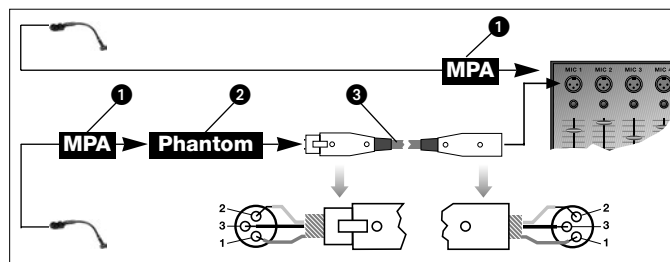

Fig. 1: Connecting to a balanced input.
- Refer to fig. 1.
1. Connect the phantom power adapter (1) on the microphone cable to a balanced XLR microphone input with phantom power.
Refer to fig. 1.